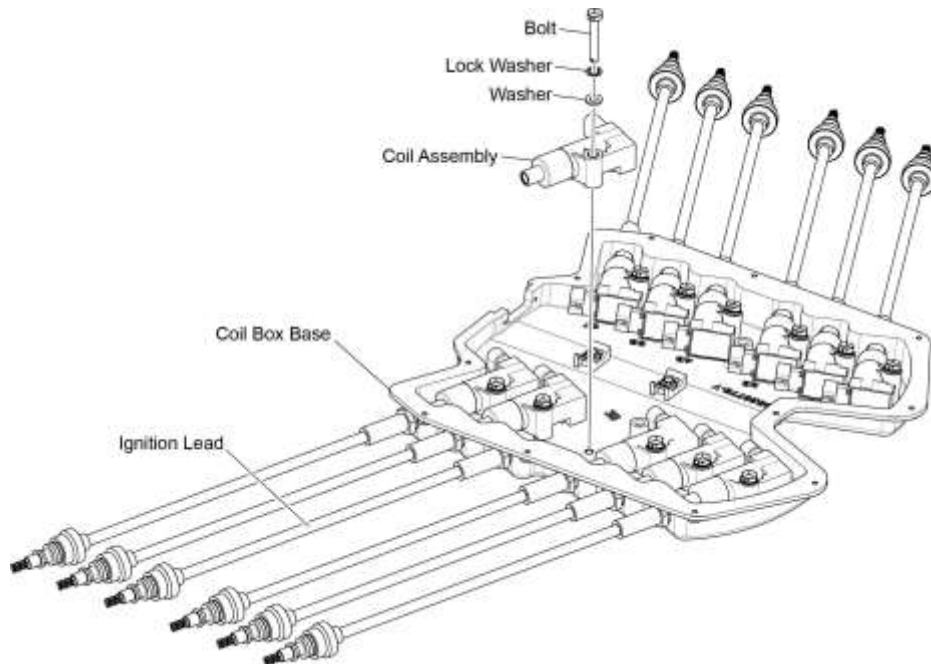

Figure 2
NOTICE: Make sure all bolts (Figure 2) are correctly torqued and all ignition leads are secured before installing the coil box lid.
- (1) Remove coil box lid per instructions in the “Coil Box Access” section in this chapter.
- (2) Remove the harness connector from the coil assembly.
- (3) Remove the bolt, lock washer, and washer (Figure 2) from the coil assembly to be removed. Discard the lock washer.
- (4) Slide the coil assembly horizontally towards the center of the coil box bottom half to let the coil assembly slide out of the silicone seal on the ignition lead.
- (1) Apply a light coat of lubricant (petrolatum or DC-4) to the mating surface of the coil assembly.
- (2) Install the coil assembly in the coil box base (Figure 2) and slide it horizontally into the silicone seal on the ignition lead.
- (3) Install the bolt, new lock washer, and washer to attach the coil assembly to the lower half of the coil box. Torque the bolt to the specified limits in the Standard Torque Tables in the latest revision of the *Service Table of Limits - SSP-1776*.
- (4) Install the harness connector to the coil assembly.
- (5) Install the coil box lid per instructions in the “Close the Coil Box” section in this chapter.
- (6) Connect the battery.
- (7) Complete the operational test in Chapter 72-00.